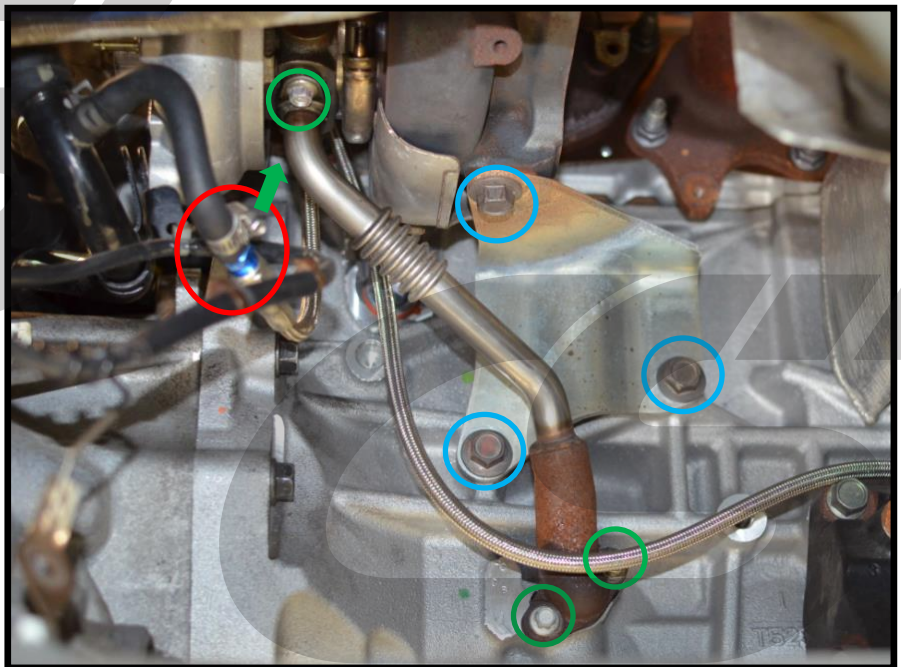

Figure 7b
- b) Remove the lower coolant line from the turbo, shown with the red circle in Figure 7b.
- c) Remove the four 8mm bolts holding the oil drain line, shown from under the car with the green arrow & circles in Figure 7b.
- d) Remove the three 14mm bolts holding the turbo support bracket, circled in blue in Figure 7b.